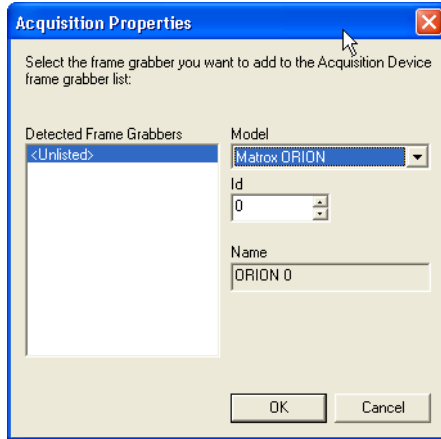

Figure 191 Frame Grabber Selection
- Use the **Add Frame Grabber** button to open the frame grabber dialog shown in Figure 191. The **Detected Frame Grabbers** frame lists the frame grabbers that are installed in the system.
- Click **Add Frame Grabber** to open the frame grabber selection window illustrated in Figure 191.